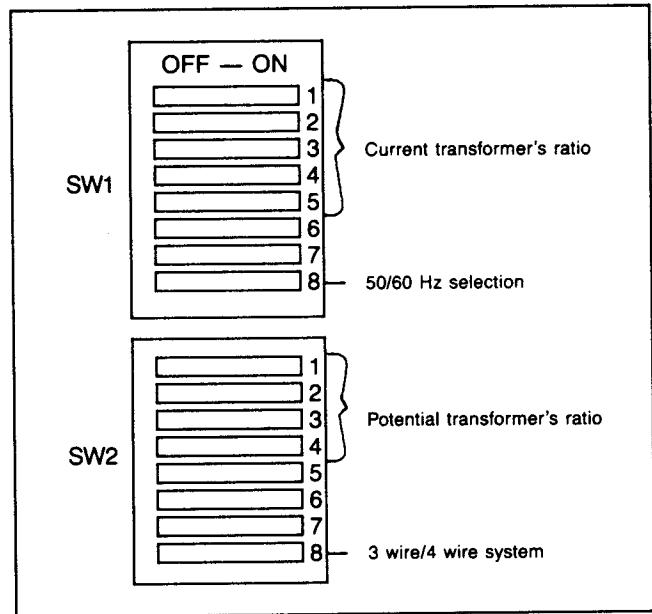

Figure 4.5 DIP Switches
4.3 DIP Switch Settings — The DIP switches located and accessed from the rear-right portion of the chassis must be properly set according to application requirements. Obtain the Installation Record Sheet produced specifically for the application. A blank Record Sheet is shown in the Table 4.A, page 19. Both DIP switches contain eight 2-position switches which are set in combination. (See Figure 4.5.) The switches are set ON or OFF by sliding the switch. As you face the DIP switches, slide:
Observe the ON and OFF designations on the DIP switches shown in Figure 4.5. Always look for the OFF and ON designations on the hardware or printed circuit board to be sure you are setting the switches correctly.